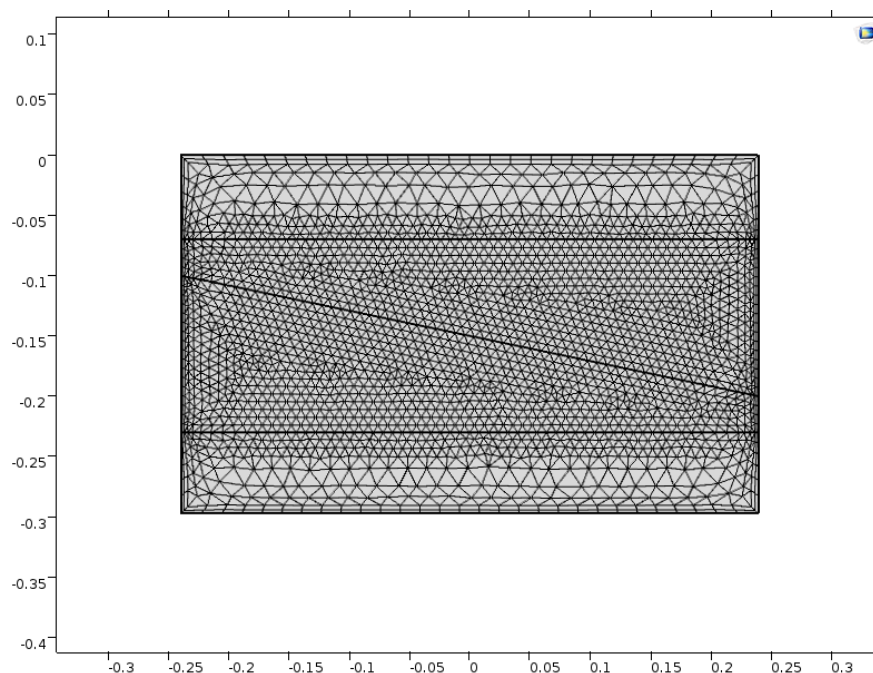

Figure 2 – The container with mesh calculated in Comsol. Note the smaller mesh inside the boundary lines.
21. The choice of mesh is very important depending on what parameters are chosen for the simulation. Click on Mesh and select the Sequence type to "User-controlled mesh". Right-click on Mesh and select a Size component. In the Size under Geometric Entity Selection you select the domains you want to affect. Under Settings you can as a first test select Predefined to Normal and then select Custom and check all boxes. The parameters at each box should now represent the settings for a Normal mesh. If this guide has been followed a maximum element size of roughly 0.008 and a minimum of $4.5 \cdot 10^{-5}$ seems to work well in most cases. This mesh should be in the space between the two lines drawn earlier. The rest of the mesh can be made larger, coarse or normal by adding a new Size component and selecting the Domains of interest. An example mesh can be seen in figure 2.